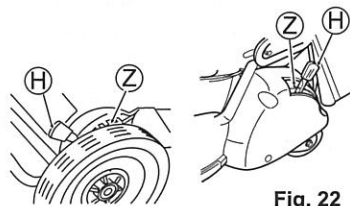

Fig. 22
2. Lean the mowing height adjustment lever (H) toward the wheel side, separating from the notches (dents) (Z). (See Figs. 22 and 23.)